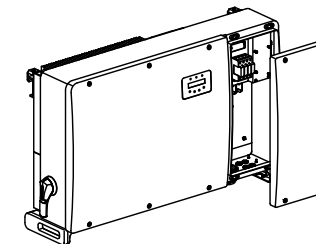

Figure 3.27 Remove the junction box cover
- 4) Remove the 4 screws on the inverter junction box and remove the junction box cover (Figure 3.27).